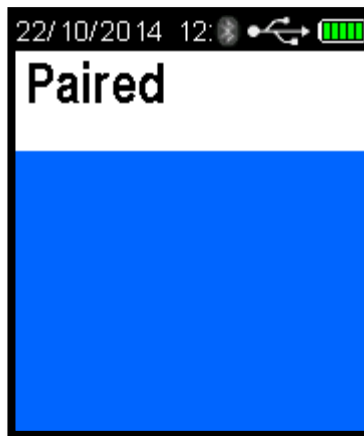

Figure 86 Printer Paired
- Press the test key to accept the selected printer. The instrument will display the Paired message on successful pairing (Refer Figure 86).